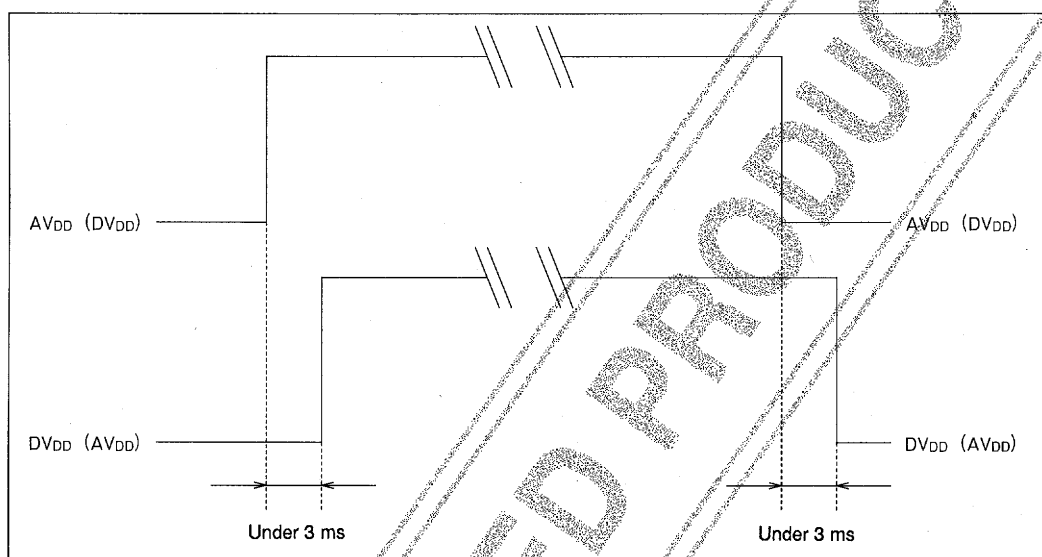

Figure 1
- The power supply rise and fall times must be less than 3 ms apart as shown in Figure 1.